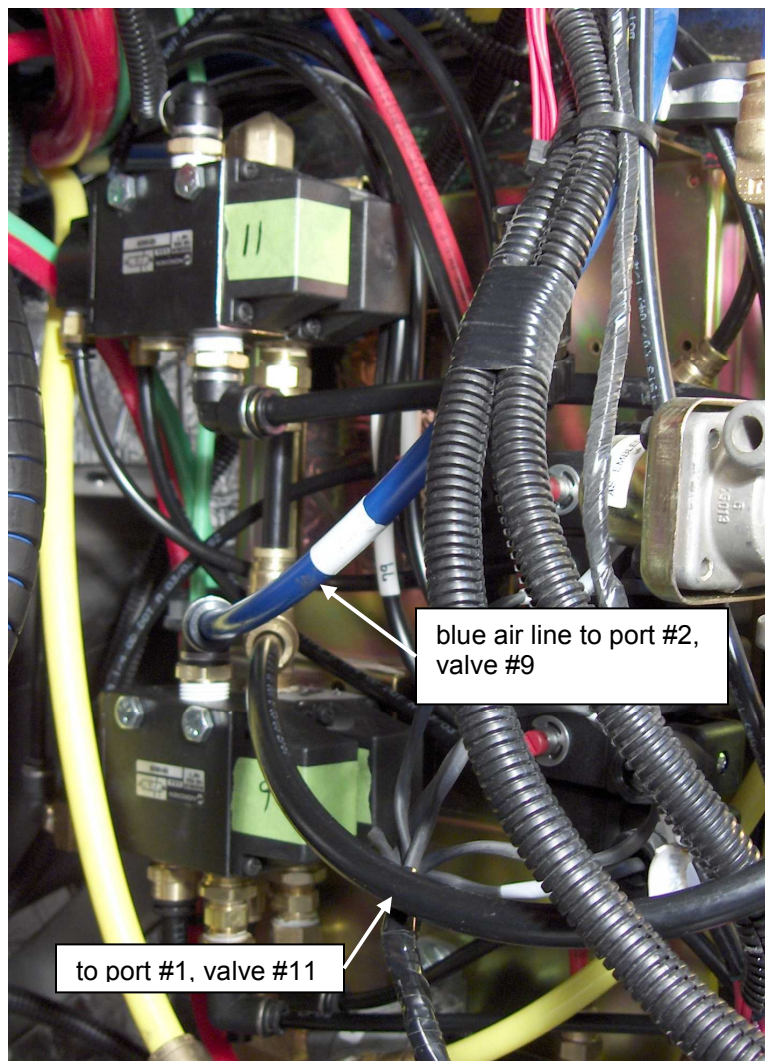

Figure 7 – Misc. Plumbing
11. Remove blue air line from port #2 on valve #10 and install it on port #2 on valve #9, install air line from port #2 on valve #10 to port #1 on valve #11 as shown in Figure 7.